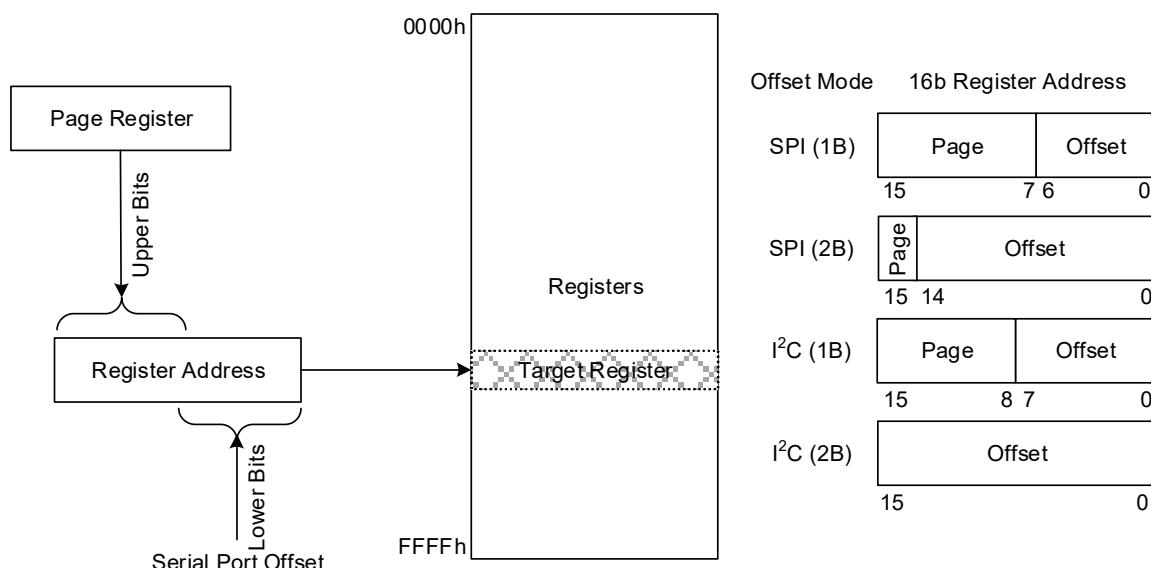

Figure 19. Register Addressing Modes Using Serial Port
You can choose to operate the serial port providing the full offset address within each burst, or to operate in a paged mode where part of the address offset is provided in each transaction and another part comes from an internal page register in each serial port. Figure 19 shows how page register and offset bytes from each serial transaction interact to address a register within the RC32504A.
The selection of 1-byte (1B) or 2-byte (2B) offset addressing must also be configured using the ssi_addr_size register field. These offsets are used in conjunction with the page register to access registers internal to the device (see Figure 19). Because the I²C protocol already includes a read/write bit with the Dev Addr, all bits of the 1B or 2B offset field can be used to address internal registers.
- 1-byte (1B) or 2-byte (2B) offset addressing (ssi_addr_size) (see Figure 19)